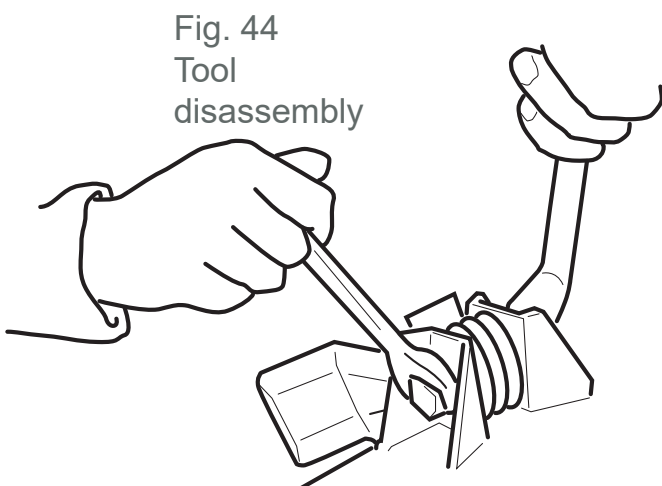

Fig. 44
- 3) Replace the knives or hammers as shown in figures 44 and 45 and carefully fix the screws on the nut making sure they are firmly tightened.